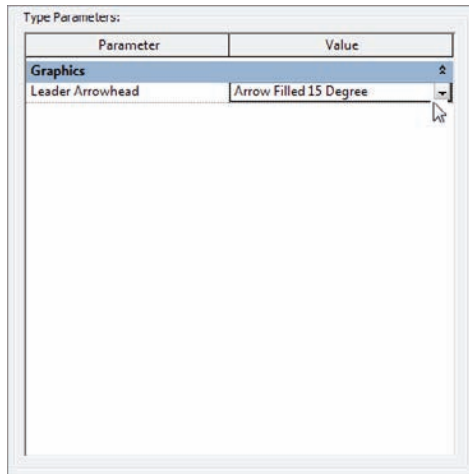

FIGURE 11.72 Changing the leader arrowhead is one of the first things you'll probably have to do.
11. Change Leader Arrowhead to Arrow Filled 15 Degree, as shown in Figure 11.72.